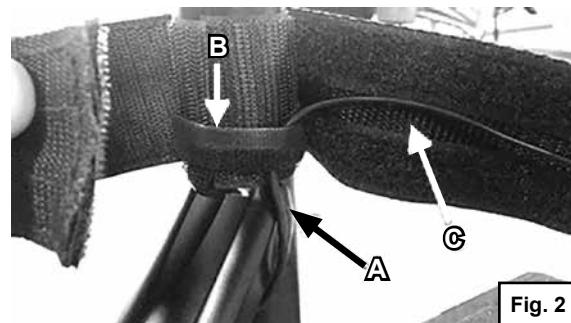

Fig. 2
8. Route the cables of the LED lights (A) along the frame towards the calf-strap. Use Velcro-zip-ties (B) to tighten the cables to the frame underneath the calf-strap (Fig.2)
9. Route the cables through the Velcro-channel (C) on the backside of the calf-strap towards the middle of the calf strap (Fig.2)